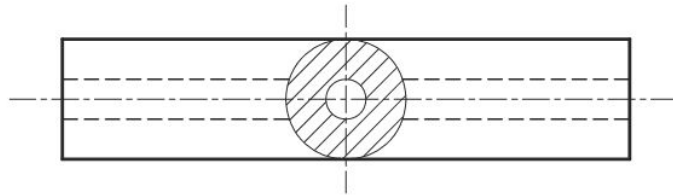

Fig. 9.30
- **Revolved Section** A revolved section is used to show the uniform shape of the object from end to end, Fig. 9.30.